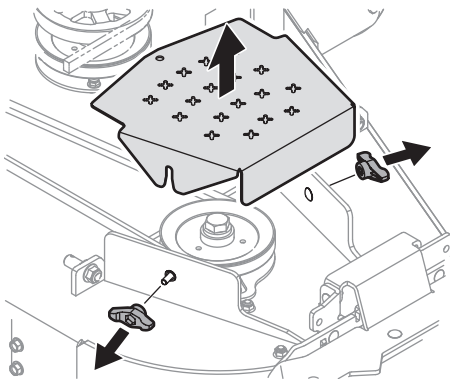

Figure 36
- Clean the top of the mower deck, under the spindle covers and belt area (Figure 36).